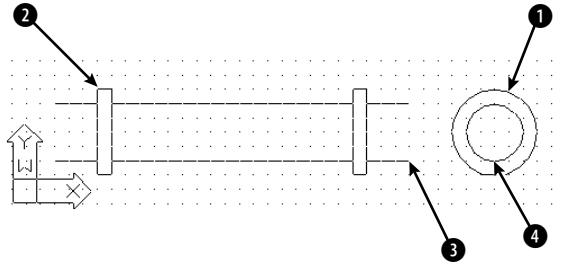

Figure 6-3: A pipe with cross-section.
4. At the Specify a point or [Hor/Ver/Ang/Bisect/Offset]: prompt, choose point ①, shown in Figure 6-3.
5. At the Specify through point: prompt, choose point ②, shown in Figure 6-3.
8. At the Specify start point: prompt, choose point ③, shown in Figure 6-3.
9. At the Specify through point: prompt, choose point ④, shown in Figure 6-3. Press Enter to end the command.